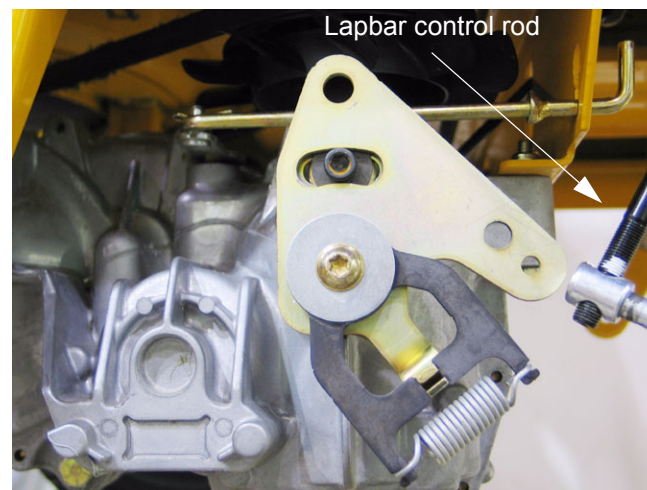

Figure 14.7
14.7. Disconnect the lapbar control rods from the return to neutral brackets. See Figure 14.7.